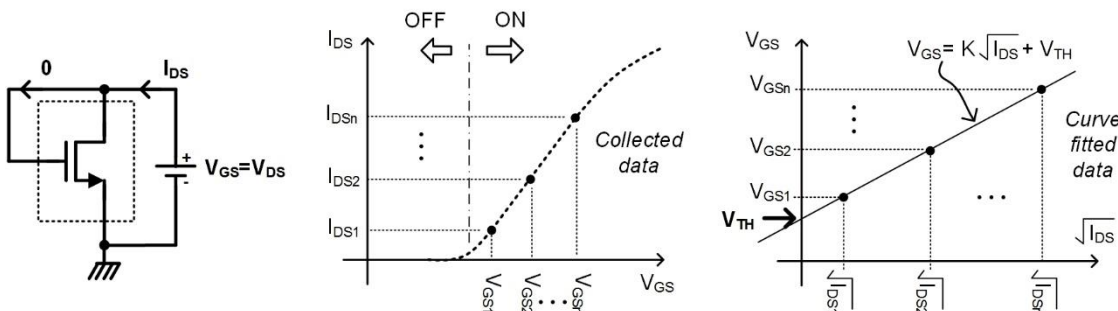

Figure 1. Setup for measuring threshold voltage (V_{TH}) of a MOSFET.
The threshold voltage (V_{TH}) of the transistor could be determined by measuring I_{DSi} currents for applied V_{GSi} voltages when the transistor is biased in ON region. The I_{DS} current ideally becomes zero when V_{GS} is less than V_{TH} , and transistor becomes OFF. However, to eliminate quadratic relation between V_{GS} voltage and I_{DS} current, it is better to work with the square root (sqrt) of the measured I_{DS} current. Thus, the extrapolated V_{GS} voltage for $\sqrt{I_{DS}}=0$ for the linear curve fitted data would be considered as the threshold voltage of the MOSFET. Here it is necessary for transistor to work in saturation (SAT) region. It is done by making sure that $V_{DS} > V_{GS} - V_{TH}$, and the measurement setup shown in Figure 1, makes sure that the MOSFET is always in SAT as long as it is ON.
If both V_{TH} and λ is known, β could easily be determined by using equation (1) and the measured I_{DS} , V_{DS} data. If λ is very small ($\lambda < 0.01$) then, β could be approximated to be about $1/K^2$, where K is a constant in the curve fit function shown in Figure 1.
- b. Study the background information of this lab document. Understand, and derive equations (2) and (3) by yourself.
- a. Construct the circuit shown in Figure 1 in Cadence and simulate it. Change the V_{GS} voltage between 0V and 3.0V (or more to see when it turn nonlinear) and record I_{DS} and V_{GS} data (at least 20 points starting 1 μ A up to 500mA of I_{DS} current levels) on Excel worksheet.
- a. Construct the circuit in Figure 1 on a prototype board using ZVN2106A. Make sure that you do not applied more than maximum rated V_{GS} or V_{DS} voltages the transistor anytime during measurement.